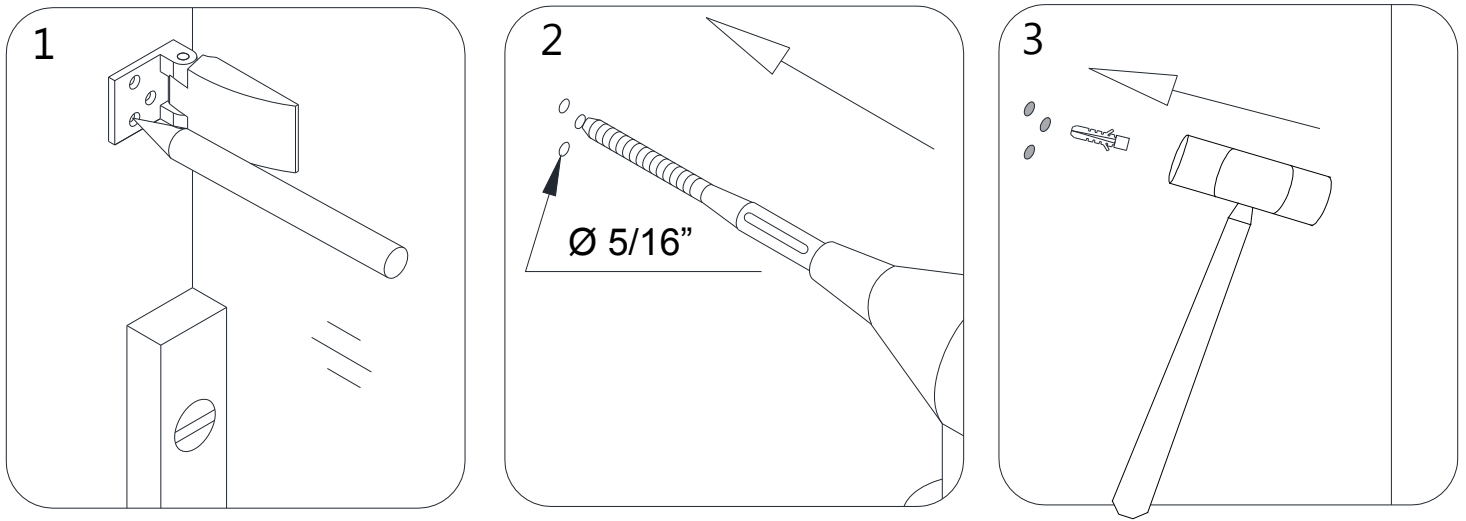

Fig 3
3. Once the door is leveled and plumb, mark the holes for drilling on the wall. Set the **Door Glass (#01)** aside and drill the holes using a **Ø5/16"** drill bit. Insert the **Wall anchors (#03)** (Fig 3)